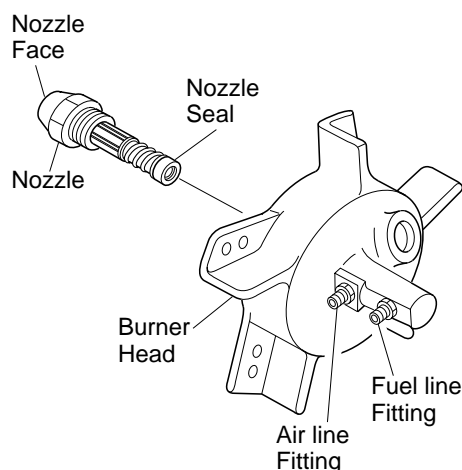

Figure 24 - Removing Nozzle, 50/70/100/150,000 Btu/Hr Models
8. Carefully remove nozzle from burner head using 5/8" socket wrench (see Figure 24).